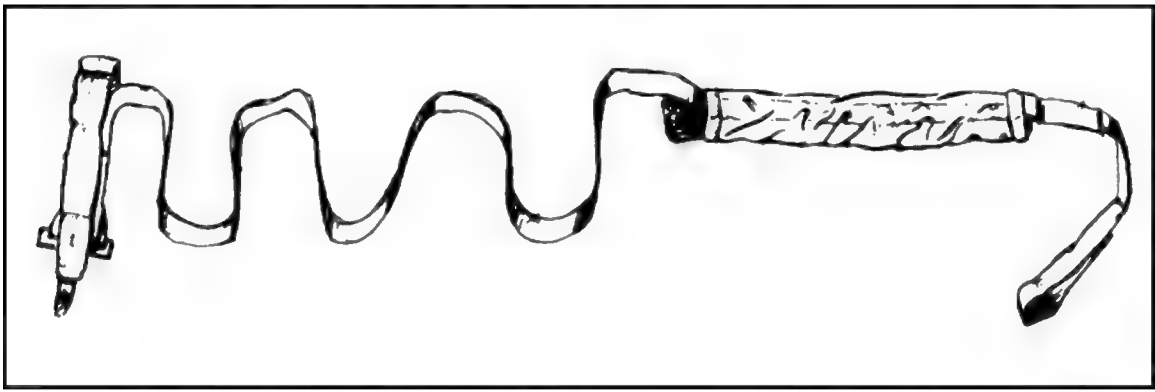

Figure 12-56. HPT lowering line stowed for tandem load.
- d. Secure the pile extension on the retainer flap to the hook tab at the looped end of the lowering line (Figure 12-56, page 12-56).